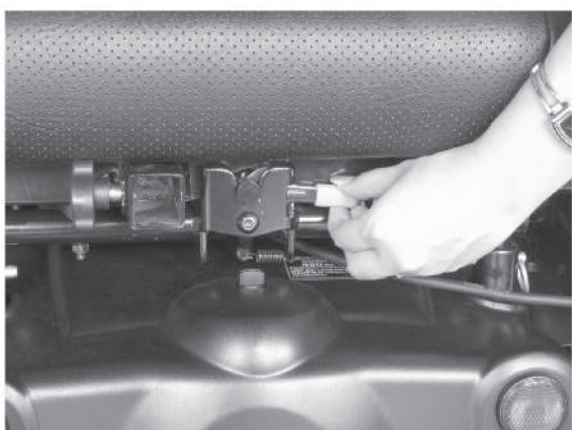

Fig C3
- (3) Push the locked-bar with left hand and lift the seat by right hand. (Fig C3)